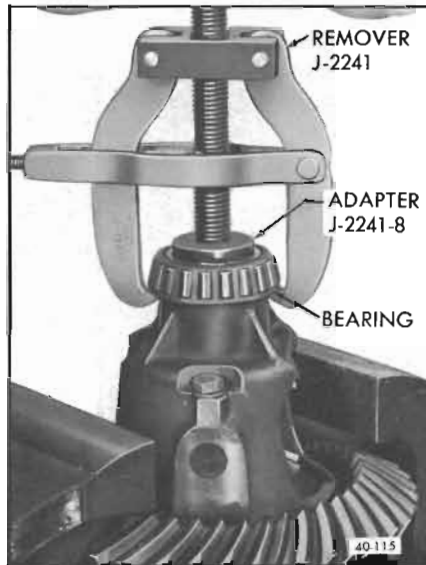

Figure 40-115—Removing Differential Side Bearings
1. If differential side bearings are to be replaced, insert Remover Adapter J-2241-8 in center hole and pull bearing using Puller J-2241 or Hydraulic Puller J-9005. See Figure 40-115.